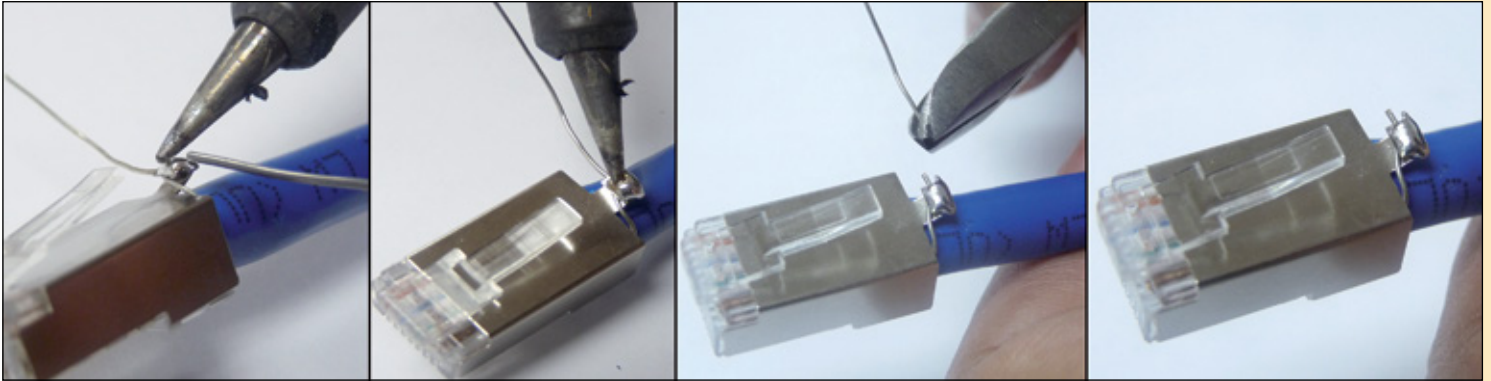

Figure 24
- 19 Proceed to apply heat with the tip of the solder iron and then apply a tiny amount of solder until it flows and covers the two parts without excess solder as it might not enter the boot opening and without moving the part to avoid the formation of a cold solder joint. Once the solder sets and cools, proceed to cut the excess drain wire. (Please see the images of **Figure 24**).